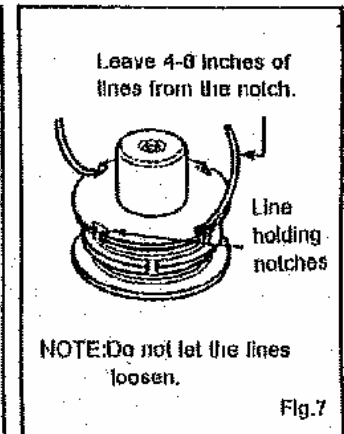

Fig.7
7. Hook the cutting line into the holding notches on the front of the spool. Do not let the line loosen. (fig.7)